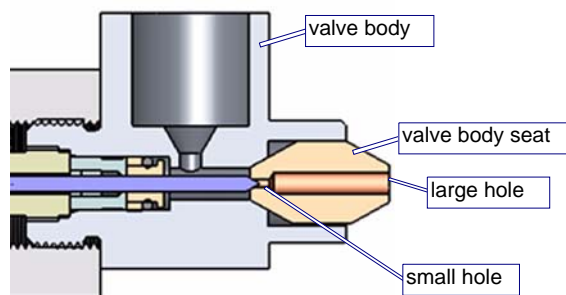

Figure 6-71: Correct Placement of the Valve Body Seat into the Valve Body
5. Insert the **valve body seat** into the **ON/OFF valve body** with the small hole end inward and the large hole end pointing outward (see Figure 6-71).